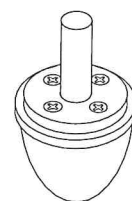

Figure 15
3. Select proper pad and fix it according to Figure 15.